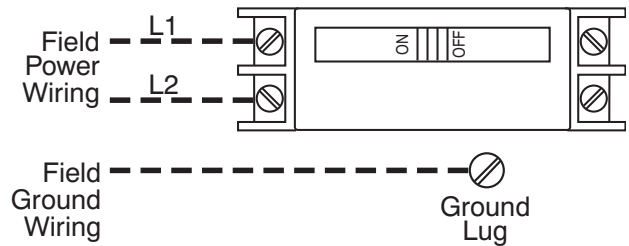

Fig. 7 - 5, 8 10 kW Circuit Breaker and Disconnect Heaters A00077
2. Circuit breaker heaters: (See Fig. 7 and 9.)